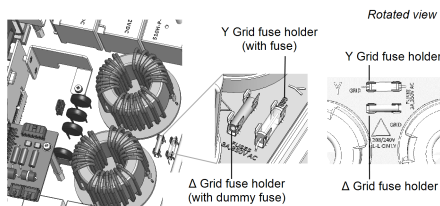

Figure 32: Fuse locations and markings
To set the inverter for 3-wire grid connection, you must move the fuse from the 4-wire fuse holder, marked as Y GRID, to the 3-wire fuse holder, marked as Δ GRID (see *Figure 32*).
1. Identify the fuse locations and the markings as described in *Figure 32*.